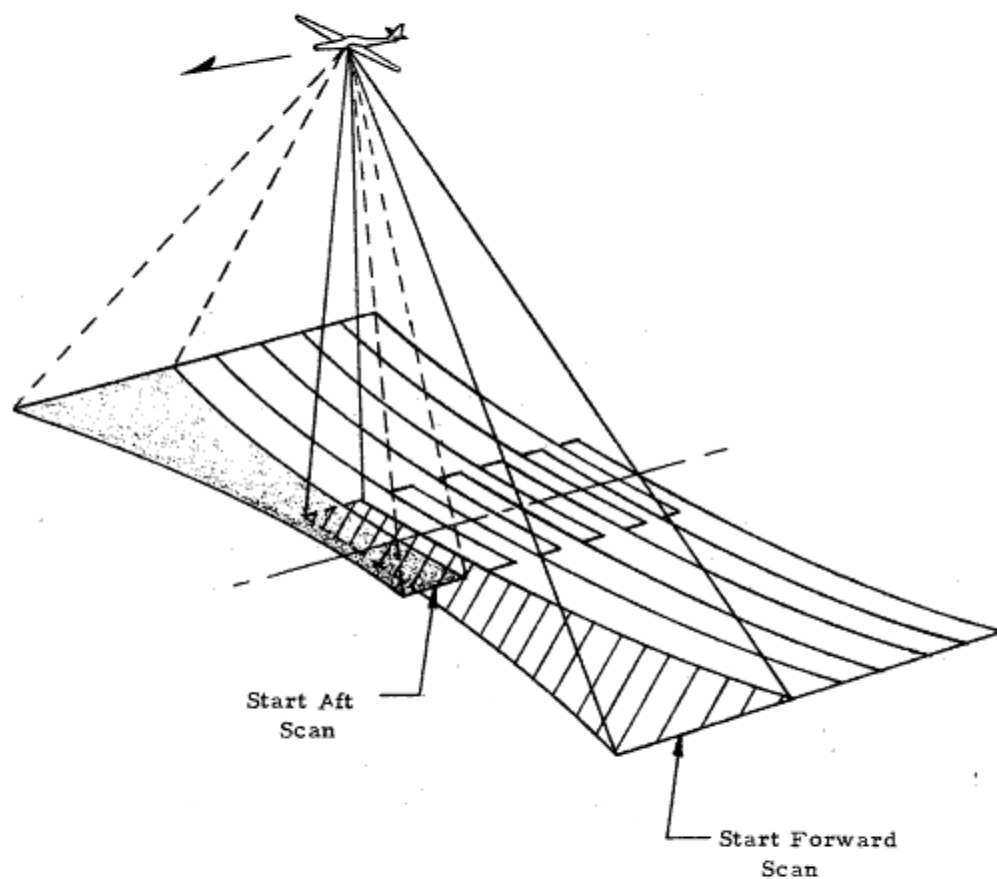
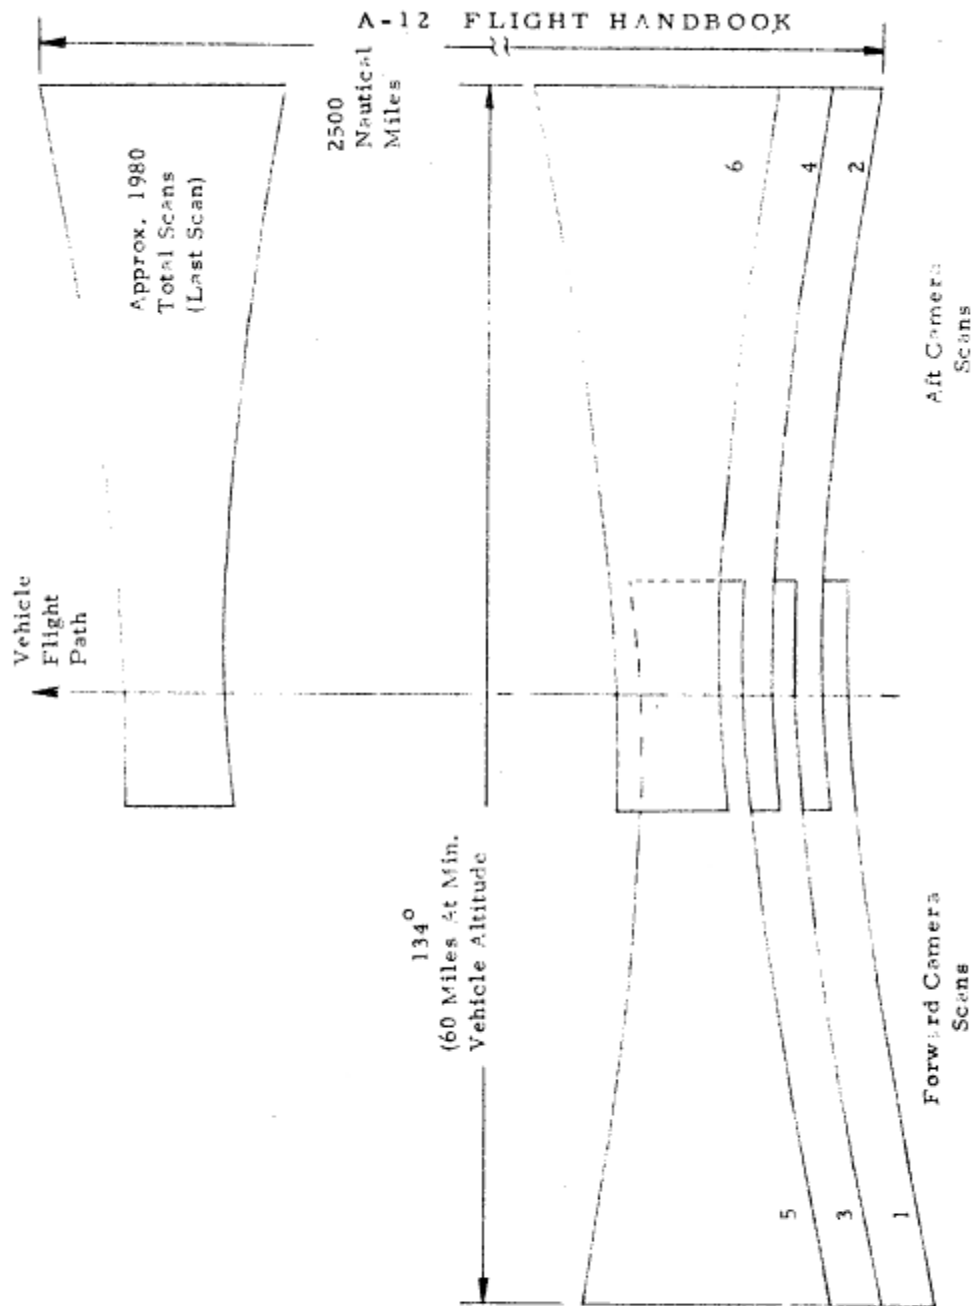

Figure 1-2. Aerial Panoramic Photography, Type I
Figure 1-3. Ground Coverage Format, Straight And Level Flight, Type I
- 1-6. Photographic coverage of the camera system is represented in Figure 1-2. The forward optical system scans the earth from  $67^{\circ}$  to the left of nadir to  $21^{\circ}$  to the right of nadir. The aft optical system scans the earth from  $21^{\circ}$  to the left of nadir to  $67^{\circ}$  from the right of nadir. Each mission can provide 2500 nautical miles of flight line coverage on 1980 frames and 60 to 75 nautical miles (or  $134^{\circ}$ ) total transverse coverage. The scan overlap provides full stereo viewing of mission results for all points on each frame format. See figure 1-3.